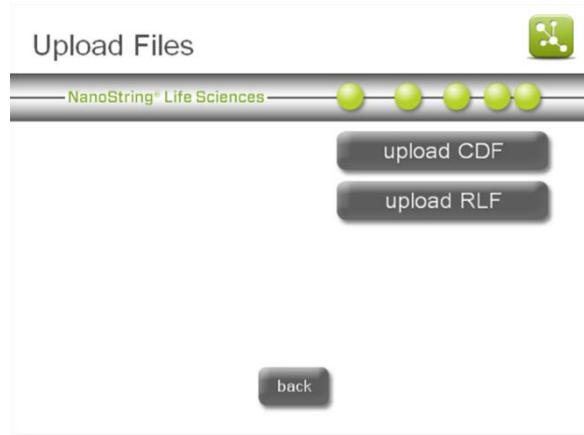

Figure 51: The ‘Upload Files’ screen
3. The ‘Upload Files’ screen will appear (**Figure 51**). Select **upload RLF**.